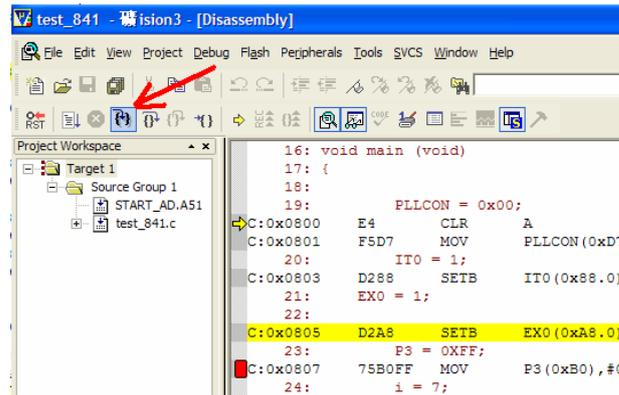

Figure 8
3). Now we can run the program step by step. Click the button as Figure 8 shown.